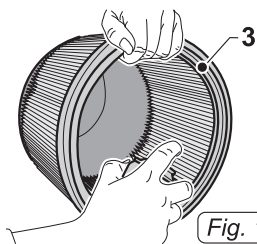

Fig. 13
- Clean the filter (3 Fig.13) from the inside out with a jet of air. If this is too dirty, it must be changed.